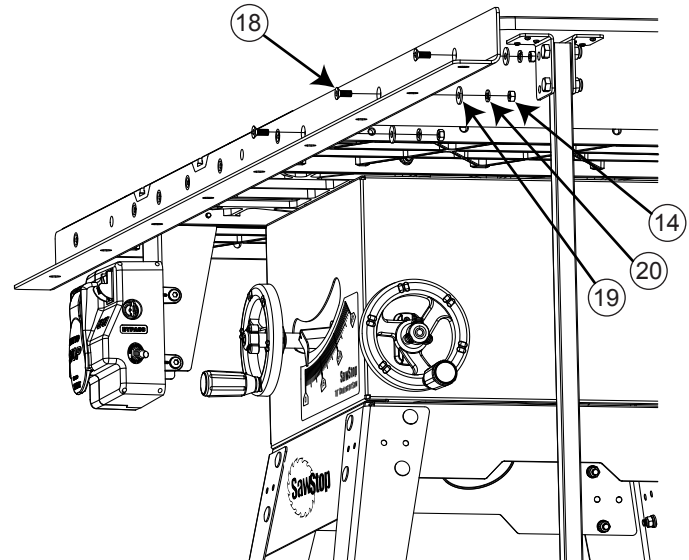

Fig. 13
13. Insert an M8 x 25 countersunk socket head bolt through each remaining hole in the front and rear rails and through the notches in the front and rear edges of the extension table. Place an M8.5 x 23 washer and an M8 lock washer on the back of each bolt and then thread an M8 hex nut on each bolt (see Fig. 13). Hand tighten the nuts; do not fully tighten them.